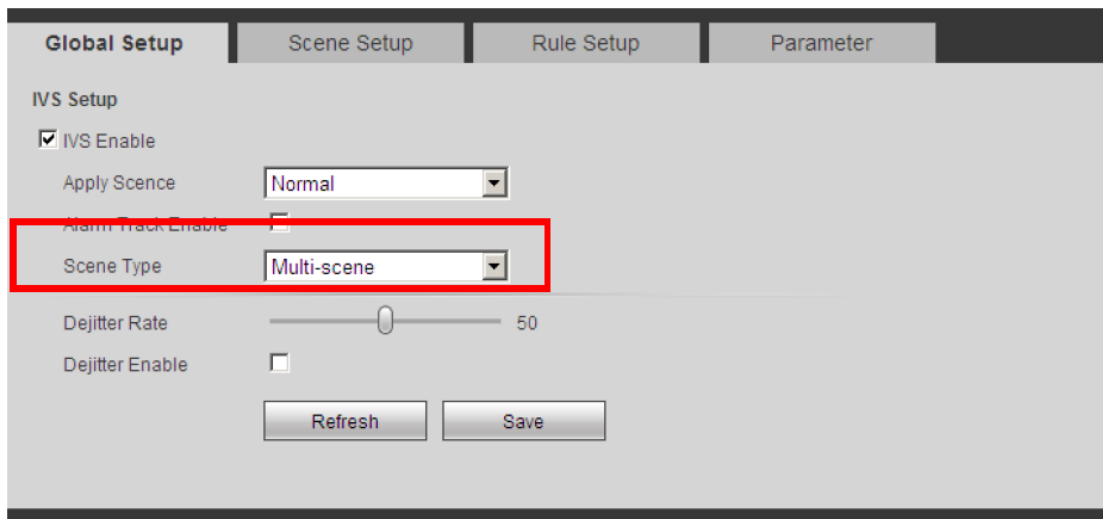

Figure 22-6
2) Please set the track parameter. See Figure 22-6. Click the save button to complete the setup. You can see system prompts a dialogue box “Save succeeded” to remind you.